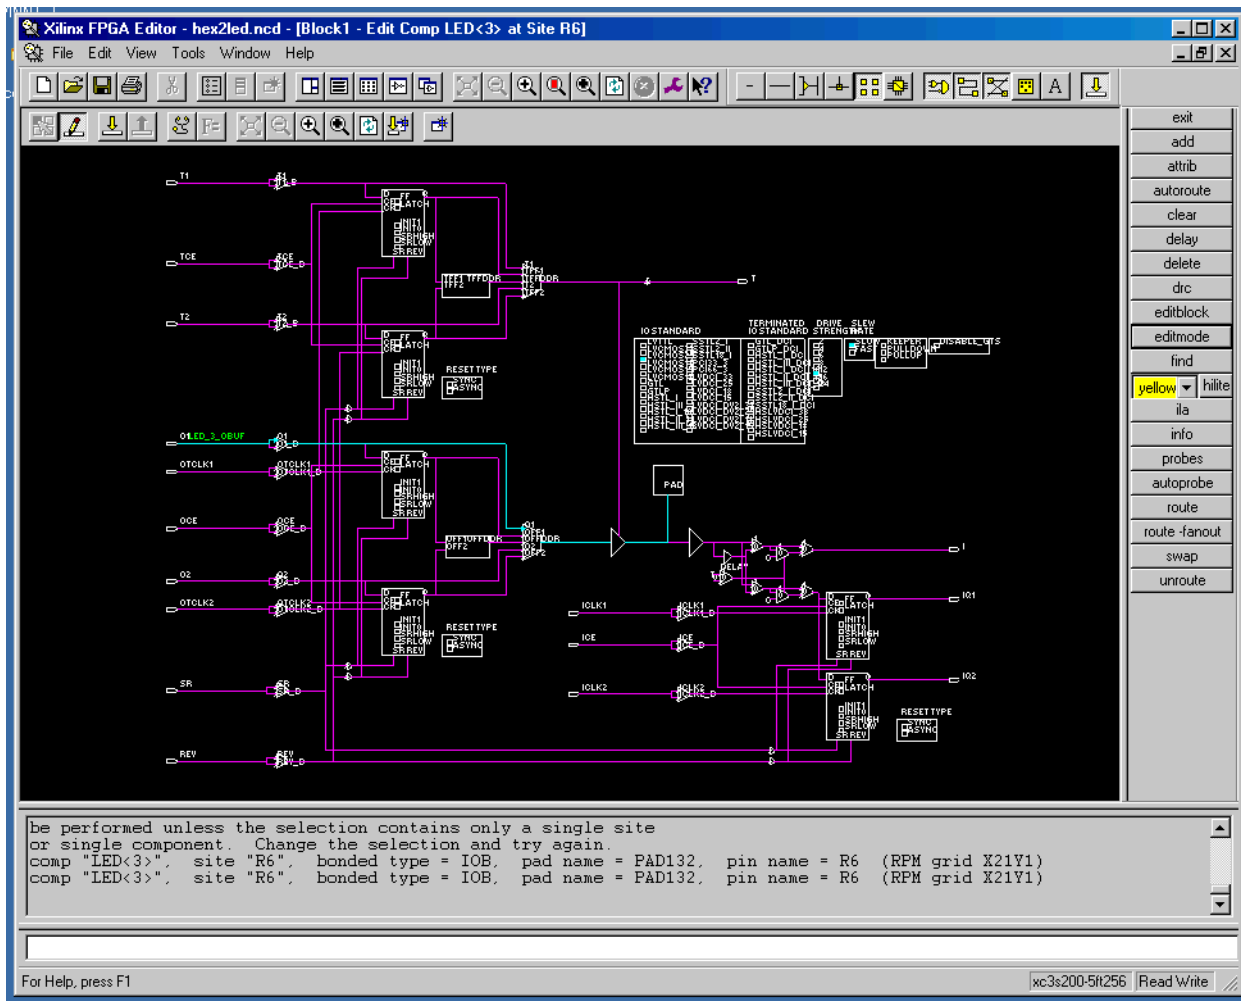

Figure 4: Block Window IOB View
- Double-click on the site to display the Block window, as shown in the Figure 4, page 6.